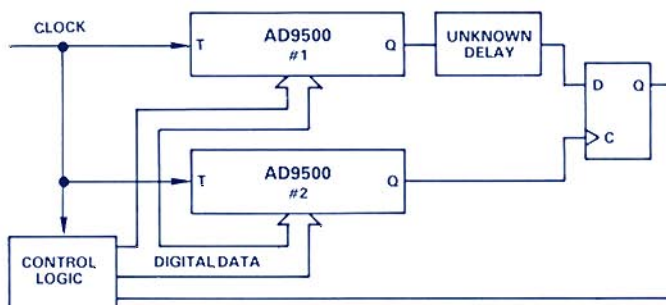

Figure 6. Measuring unknown delays.
**Programmable Oscillator:** A digitally programmed oscillator for frequencies up to 67 MHz is an interesting use of the AD9500. The high-precision delays it generates can be exploited to create a ring oscillator with variable duty cycle (Figure 6). The delayed output of the first AD9500 is used to drive the trigger input of the second unit; the output of the second, in turn, drives the trigger